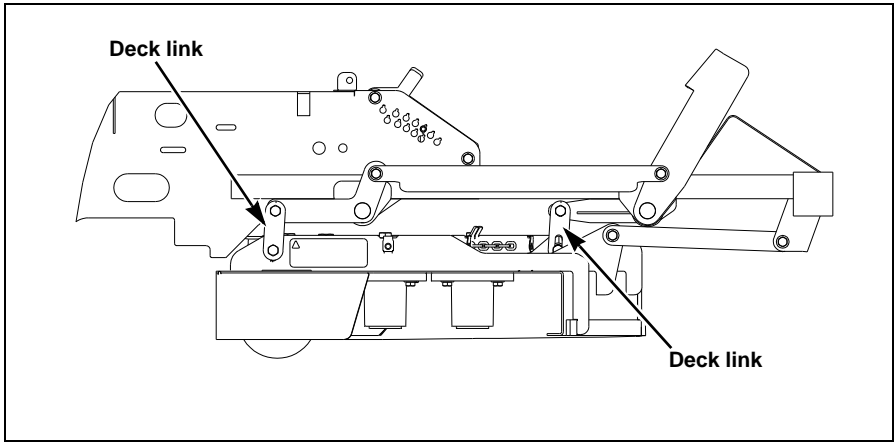

Figure 6-4
9. Tighten the three deck links to the deck with the flanged nuts clamping on either side of the slot with 48 ft.-lbs. of torque. Release the lift pedal and ensure that the deck can be raised and locked into the transport position. Figure 6-4